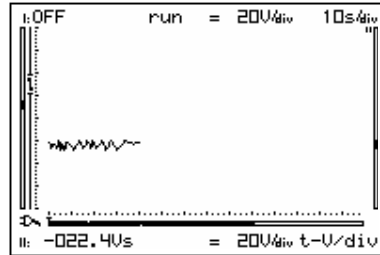

Fig 31
- At 10s/div timebase or slower, the readouts are forced to the instant information. ‘Vs, V↑, V↓, V↓’ (Fig. 31 & 32) .